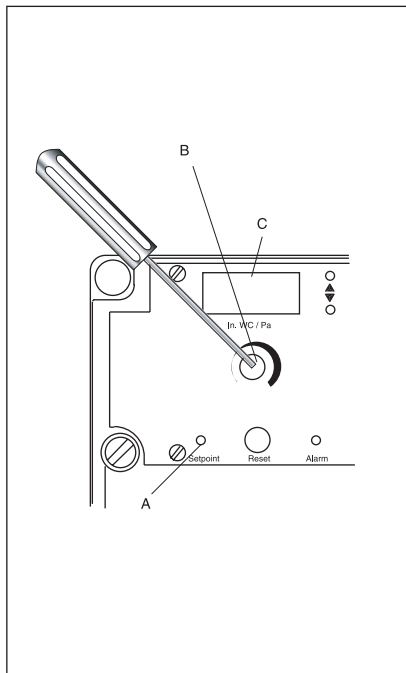

Fig. 13
The pressure setting of the MEC18 must be adjusted to assure proper pressure for the appliance. The display (fig. 13-C) has two functions. It shows what the pressure set-point is, and it shows what the actual pressure is. The default mode shows the actual pressure. To change the mode, the set-point button must be pressed continuously.
1. Press the set-point button continuously with a pen or screwdriver (fig. 13-A) until the pressure setting appears on the display. While continuing to press the set-point button, use the potentiometer (fig. 13-B) to set the required pressure in WC/Pa on the display (fig. 13-C). Release the set-point button; the actual pressure will now show up on the display.